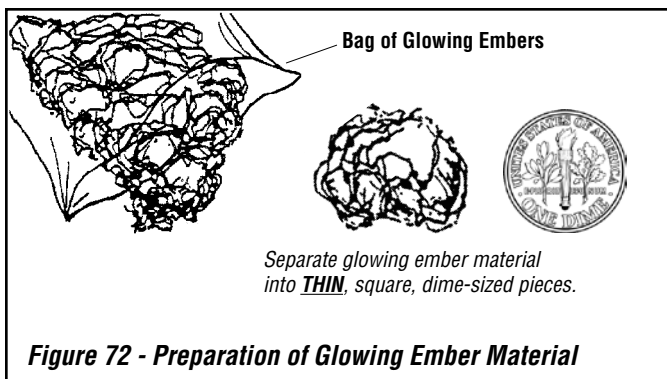

Figure 72 - Preparation of Glowing Ember Material
a) Separate some of the glowing ember material into pieces **about the size and thickness of a dime** (see **Figure 72**). Keep the pieces fluffed up, not matted.